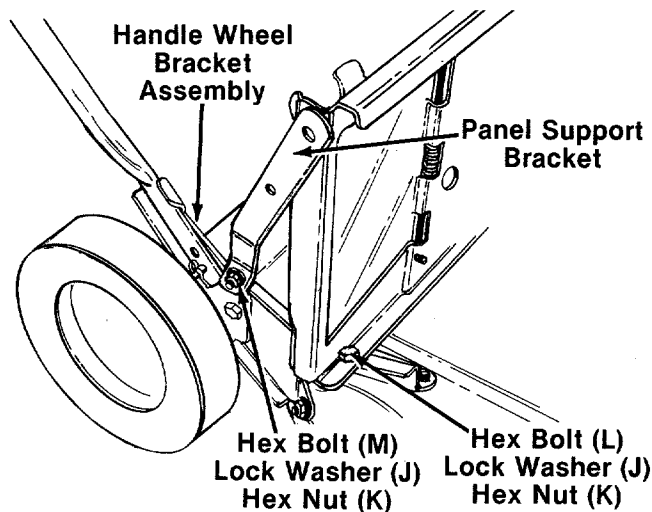

FIGURE 16.
3. Place the panel support bracket in position on the right side of the unit. The bend in the bracket goes toward the outside of the unit, and the holes are positioned as shown in figure 16. Secure bottom of bracket to the handle wheel bracket assembly with one hex bolt (M), lock washer (J) and hex nut (K), finger tight only. See figure 16.